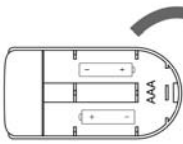

Figure 5
- 1) Open the battery compartment cover on the back of the device, shown as Figure 5.